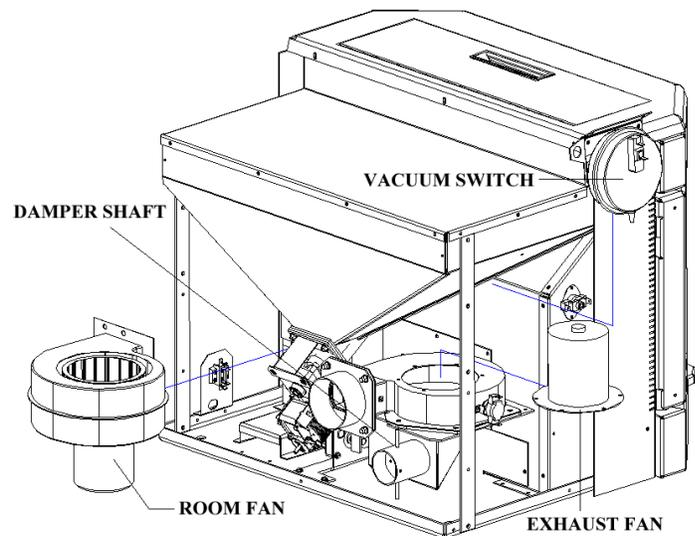

Figure 10
3. Oil the Damper control shaft and the holes in the 2” tube, to make sure the mechanism moves freely (see figure 10).
4. The motor/fan area behind the Firebox and under the Hopper should be vacuumed annually (See figure 10). **NOTE: UNPLUG THE INSERT.** Slide the Insert out of the Fireplace and carefully clean or vacuum any sawdust, cobwebs and household dust. Carefully vacuum around the fan motors. Call your dealer for this service.
5. The Exhaust fan should be removed and cleaned annually. Figure 10 shows the Vacuum Switch removed for easier access to the Exhaust fan. Remove the Motor and Impellor from the housing as shown (may require a new gasket) to clean that area of the exhaust system. Clean the Exhaust fan motor with compressed air. Be sure to remove any heavy build-up on the impellor at this time. Call dealer for this service. Annual oiling of the motors is not needed.